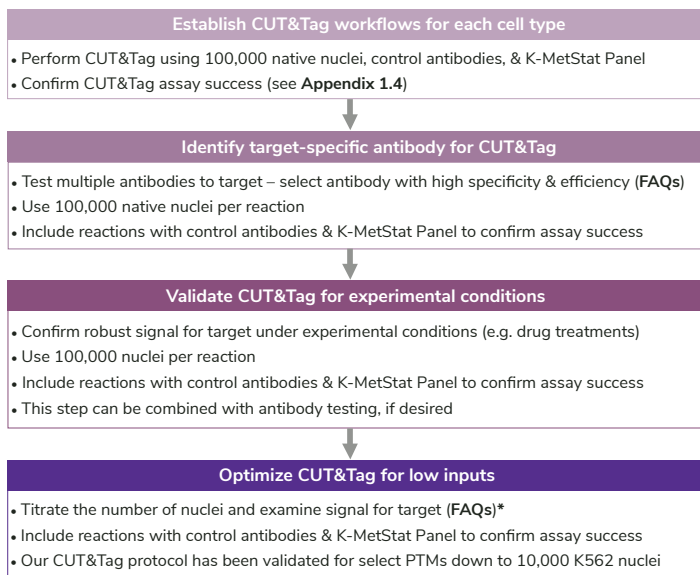

FIGURE 6
- Optimization methods are provided in Figure 6. For CUT&Tag troubleshooting, see **Appendix 1.2**. For considerations when using low nuclei numbers, see **FAQ 7**.